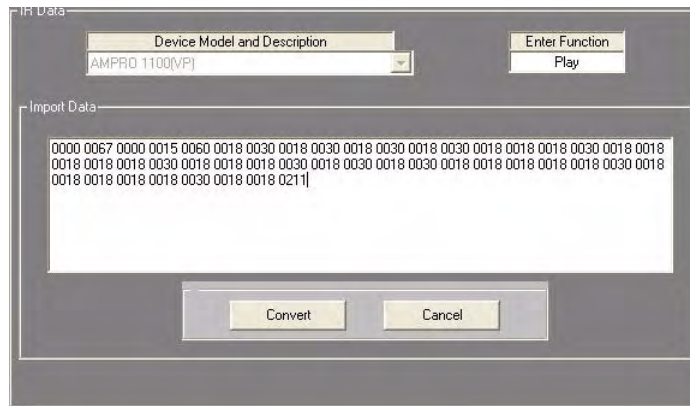

FIG. 54 AMX Library Files dialog - Hex data entered
- Copy and paste the appropriate Hex code for this function in the *Import Data* text field (FIG. 54).